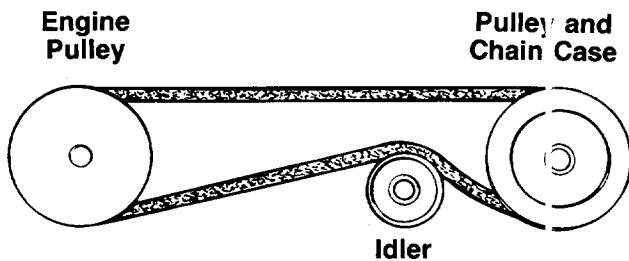

FIGURE 30.
5. Reassemble using the new belt, making certain the idler pulley is under the belt. See figure 30.